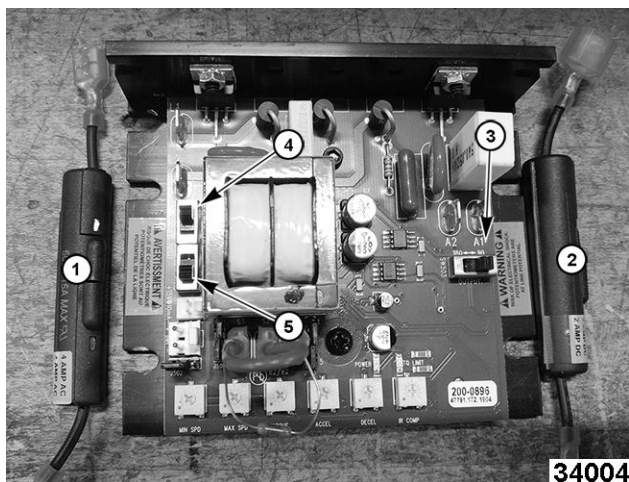

Fig. 65
2ND GENERATION CONTROLLER BOARD SHOWN IN Fig. 65
- Fuse - 1, Fig. 65, 4 amp AC.
- Fuse - 2, Fig. 65, 2 amp DC.
- 3 switch shown in Fig. 65 should be set at 90.